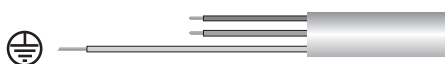

Fig. 1
1. Slide the clip on the flap, remove the screws (fig. 1). Rotate and lock the panel by the clips. Open connections box (fig. 2).